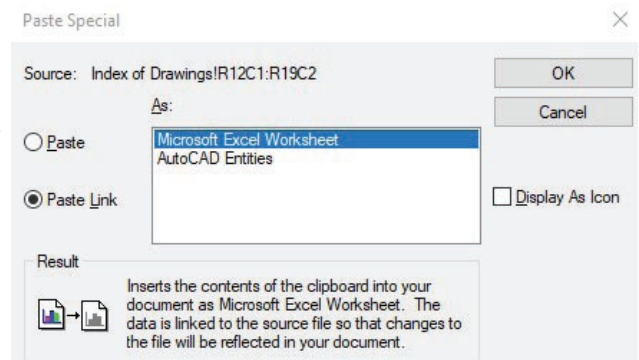

Figure 3
- 4.2. Drawing index, scope of work, time line, and TTU signatures shall be Microsoft Excel tables linked into the title sheet/cover sheet (AutoCAD command : *PASTESPEC*). See Figure 3